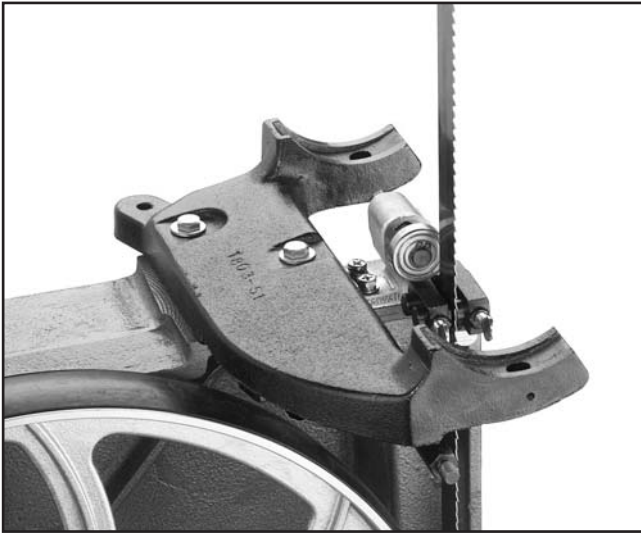

Figure 19. Trunnion casting mounted to bandsaw unit.
2. Line up the holes on the trunnion casting with the roll pins that are in the bandsaw unit. Tap the trunnion casting down onto the bandsaw unit. Secure with the hex bolts and washers as shown in **Figure 19**.